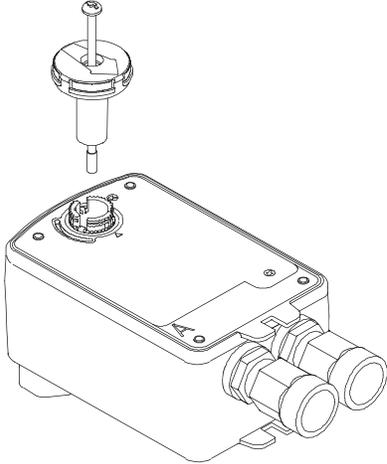

Figure 8: Installing the Fixed Pointer
- 6. Insert fixed pointer and M4x0.7x83 mm long screw into the Side A actuator hub (Figure 8). Direct the arrow on the pointer to 100%.